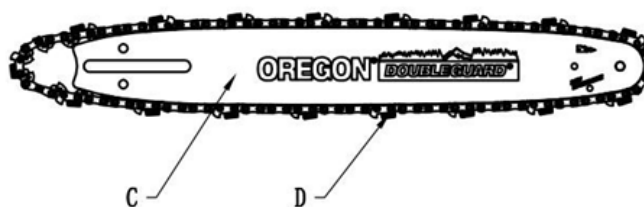

Fig 6
3. Assemble the chain (D) and bar (C) as shown in Fig. 6. (Make sure the teeth point in the correct direction.)